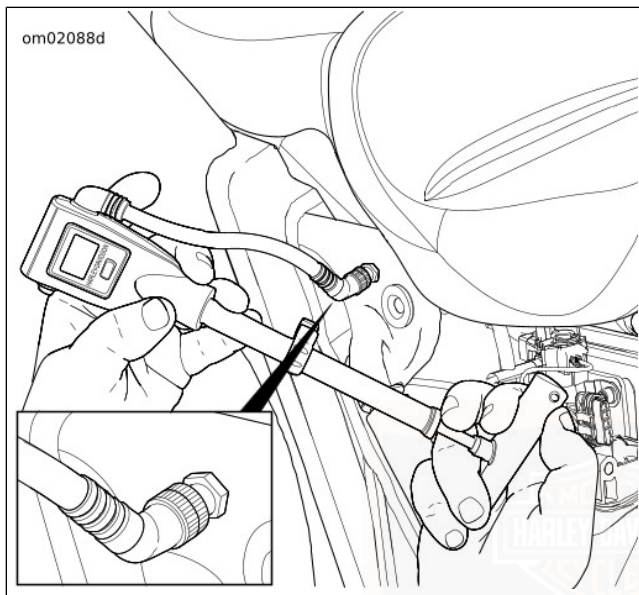

Figure 27. Adjusting Shock Air Pressure
- b. **Inflate pressure:** See Figure 27. Pull out the handle. Rotate the handle to the T-position. Pump until the display indicates the recommended pressure.